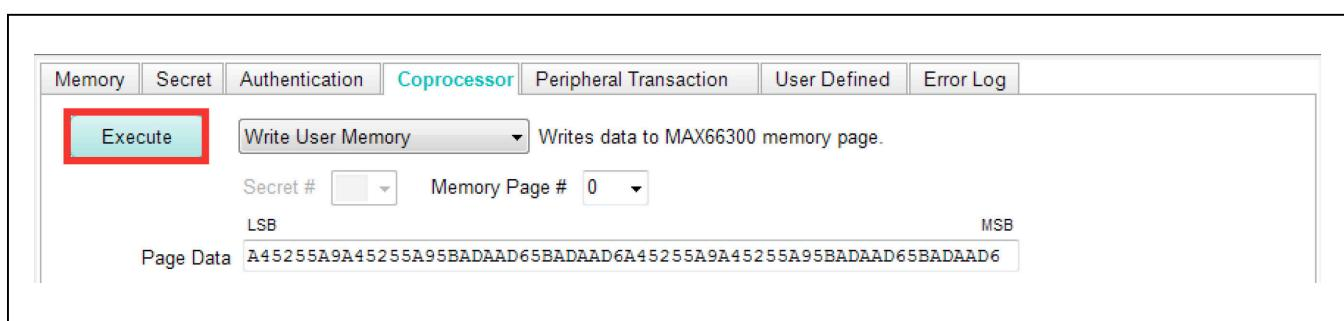

Figure 23. Execute Write User Memory
- 19) Click the **Execute** button to install the binding data into the MAX66300 memory page (Figure 23).